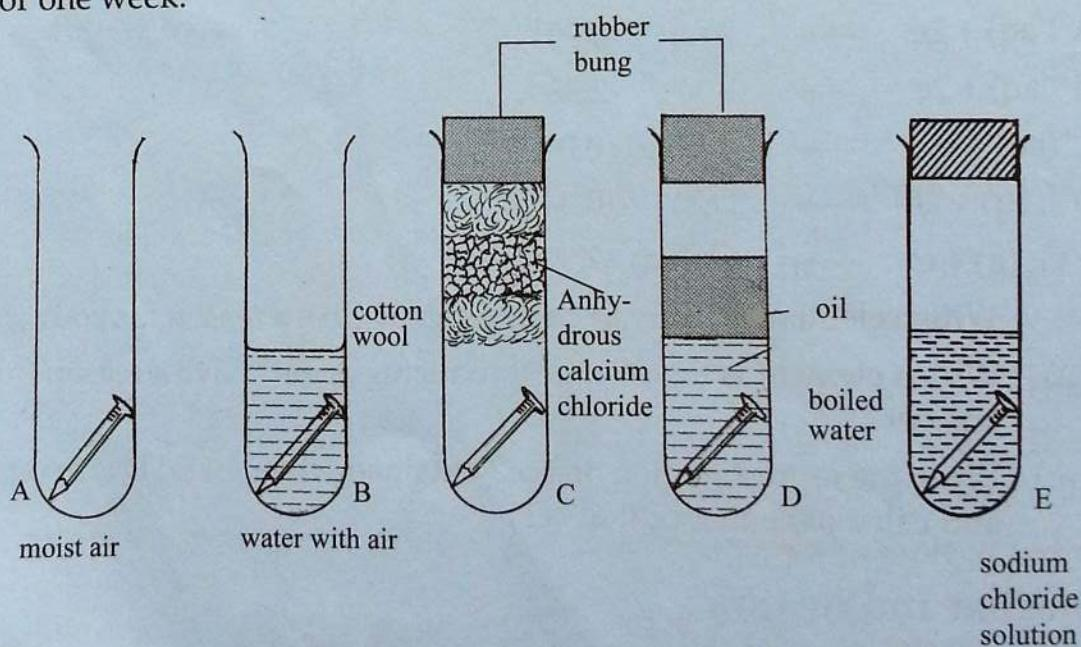

Fig. 3.10: Investigating the conditions necessary for rusting.
7. Add boiled or distilled water to the fourth test tube D. Add a layer of oil and close the tube as shown in Fig. 3.10.